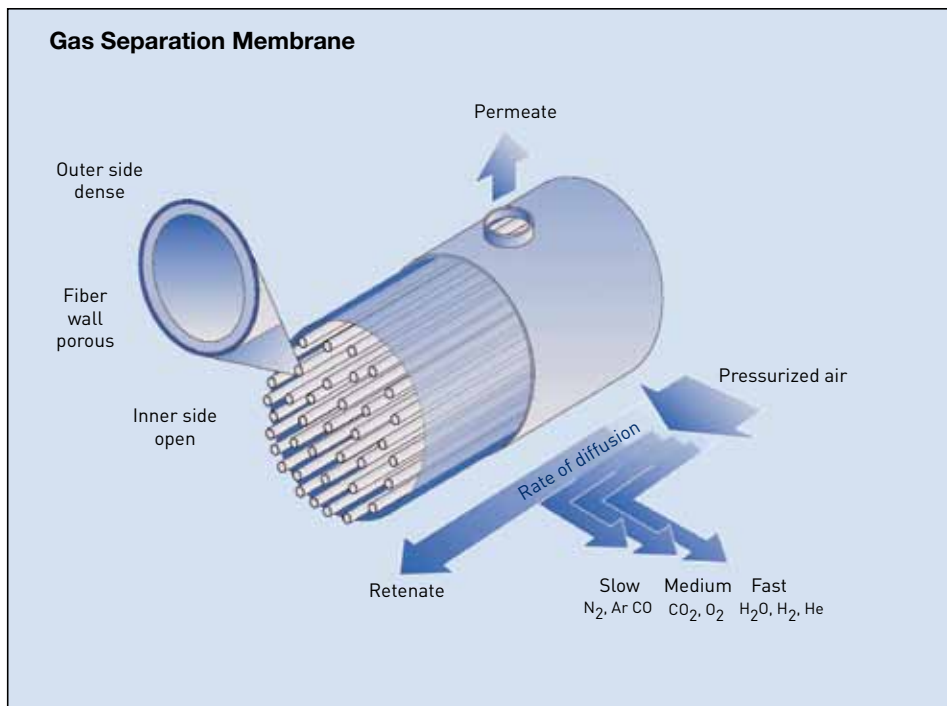

Figure 2: Separation of nitrogen via a semi-permeable membrane.
7. Nitrogen purification via a semi-permeable membrane. A hollow-fiber membrane separates the nitrogen from the other gases in the compressed air. Air flows through the tube as shown in Figure 2. Gases that permeate at a rapid rate (CO₂, O₂, H₂O, H₂, He) are removed from the com-